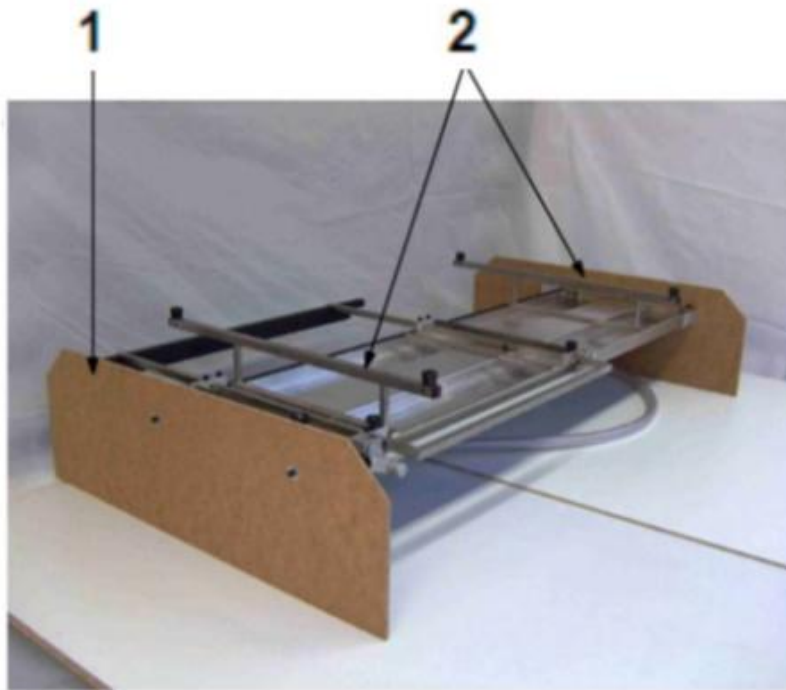

Figure 24 Fitting the feet
4. Screw the feet (2, Figure 24) to the underside of the precision circular table saw using the screws supplied (M5x90).
6. Remove the transport plates (1, Figure 24).